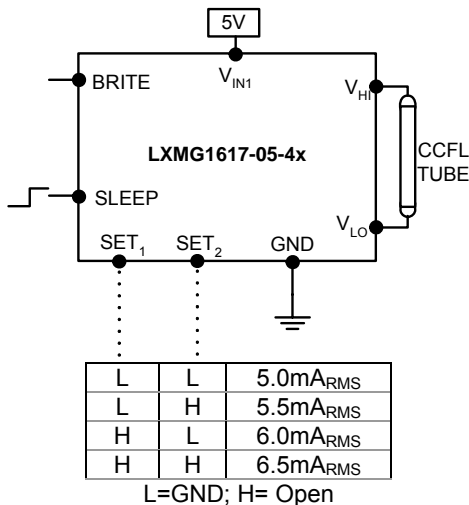

Figure 2 – Max Output Current (SET₁ and SET₂ Inputs)
- Use the SET₁ and SET₂ (see Figure 2) inputs to select the desired maximum output current. Using these two pins in combination allows the inverter to match a wide variety of panels from different manufactures. Generally the best lamp lifetime correlates with driving the CCFL at the manufactures nominal current setting. However the SET₁ and SET₂ inputs allow the user the flexibility to adjust the current to the maximum allowable output current to increase panel brightness at the expense of some reduced lamp life.